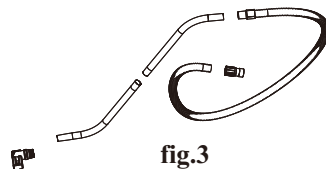

fig.3
3. Put the hose end with the short connector into the square connector and insert the switch of the square connector into the groove of the short connector. The other end of the hose should be connected with different fittings according to the cleaning work, such as the dry floor nozzle assembly, the wet floor nozzle assembly. (fig.3)